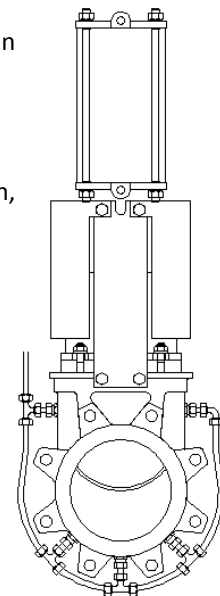

fig. 8
- Flushing Holes in Body (fig. 8)